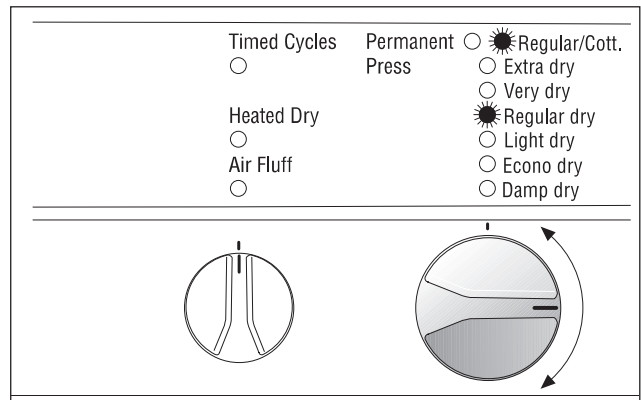

Figure 3.
- To use **Electronic Auto Dry Cycles** (dryer runs until the drying level selected has been reached) activate by turning the Cycle Selector knob (see Figure 3) to: